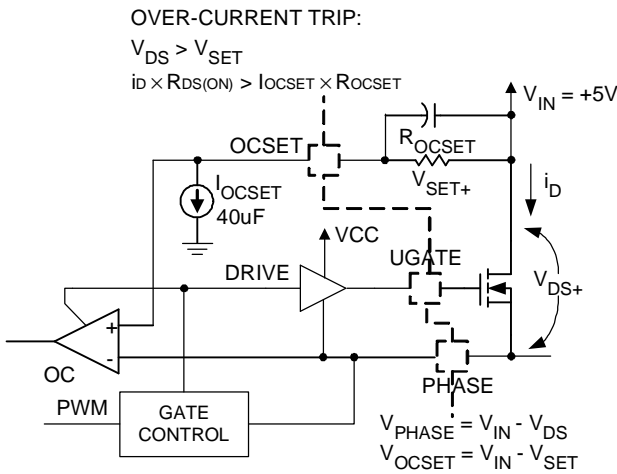

Figure 3
The over current protection (OCP) function of the RT9202 is triggered when the voltage across the  $R_{DS(ON)}$  of upper side MOSFET that developed by drain current exceeds over-current tripping level. An external resistor ( $R_{OCSET}$ ) programs the over-current tripping level of the PWM converter. As shown on Figure 3 the internal  $40\mu\text{A}$  current sink ( $I_{OCSET}$ ) develops a voltage across  $R_{OCSET}$  ( $V_{SET}$ ) that is referenced to  $V_{IN}$ . The DRIVE signal enables the over-current comparator (OC). When the voltage across the upper MOSFET ( $V_{DS(ON)}$ ) exceeds  $V_{SET}$ , the over-current comparator trips to set the over-current latch.